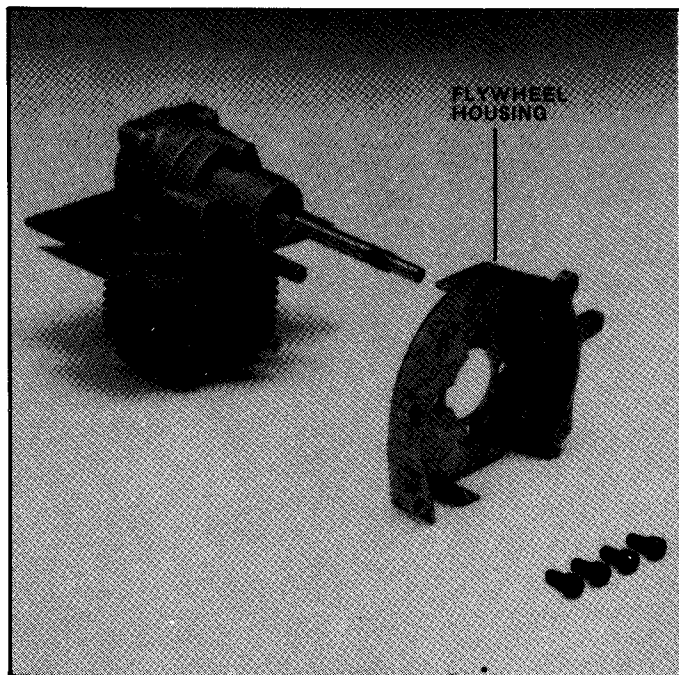

FIGURE 9.4
9.4 Remove the crank shaft key from the crank shaft and the four screws from the flywheel housing. Lift the flywheel housing off the crank shaft housing and set these aside until final re-assembly. For re-assembly tightened the housing mounting screws to 120 inch pounds torque. See Figure 9.4.